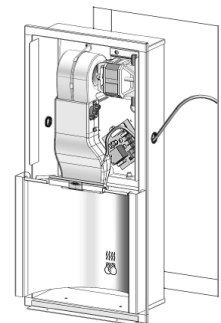

Fig. 4
5. Provide electrical service from nearest distribution panel to dryer mounting base in conformance with local electrical codes. Use wire as required by local electrical code, No. 12 (3.31mm2 dia.) wire or larger. (See Fig. 4)